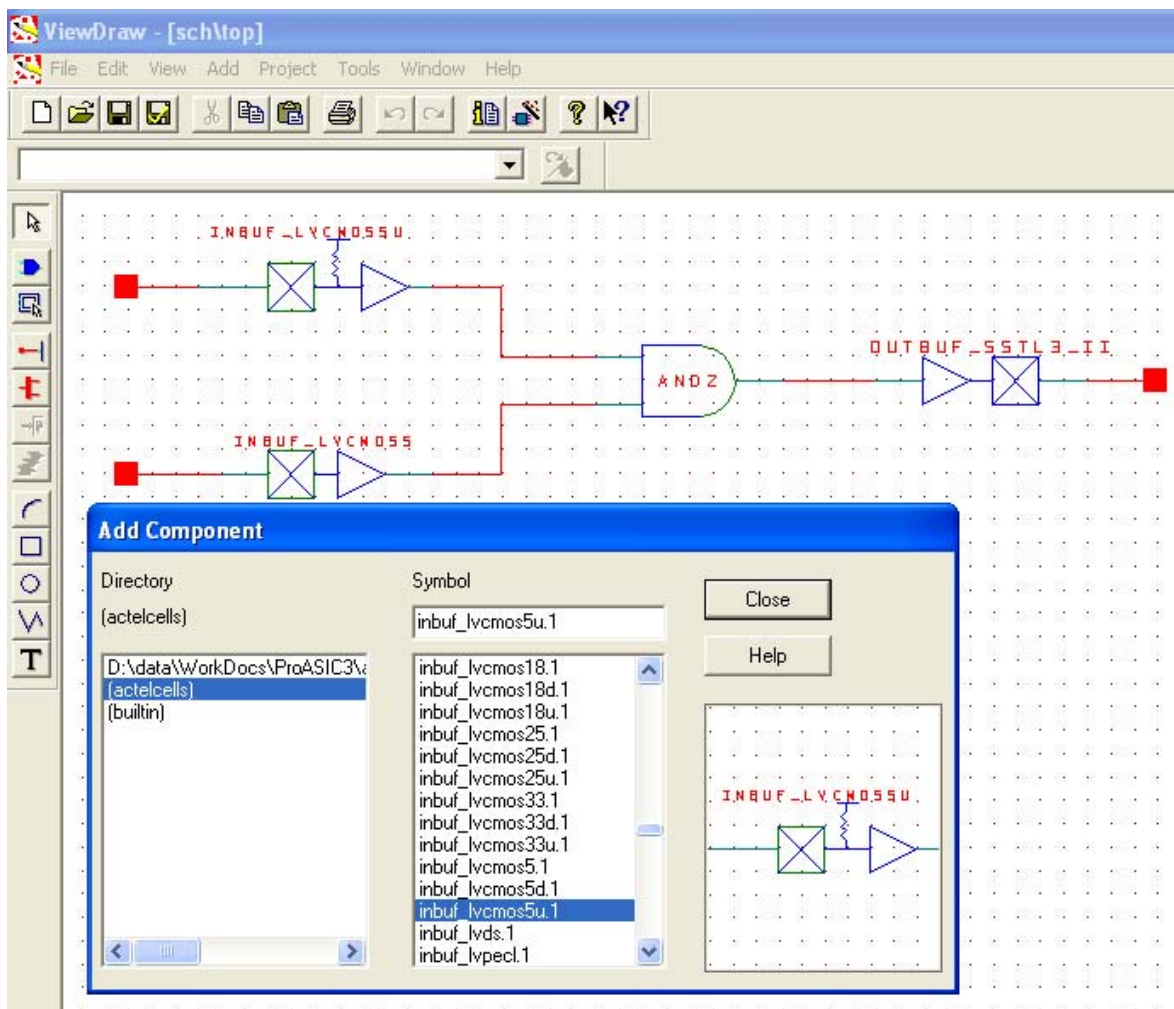

Figure 8-6 • I/O Buffer Schematic Cell Usage
6. Enter a name for the macro. Click **OK**. The core will be generated and saved to the appropriate location within the project files (Figure 8-6 on page 201).
Libero IDE includes the ViewDraw schematic entry tool. Using ViewDraw, the user can insert any supported I/O buffer cell in the top-level schematic. Figure 8-6 shows a top-level schematic with different I/O buffer cells. When synthesized, the netlist will contain the same I/O macro.